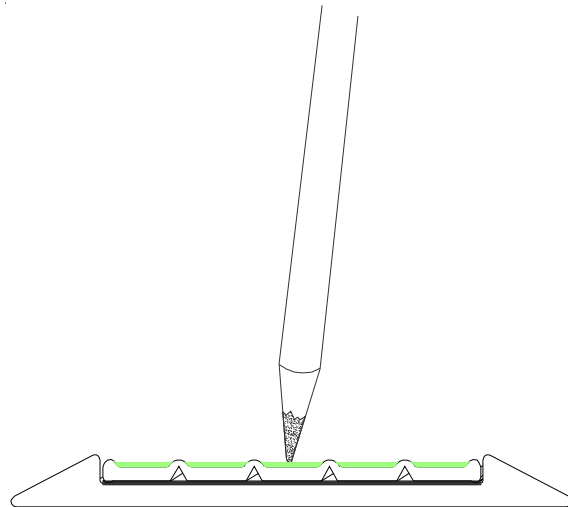

Figure 2
STEP 1. If the anchor holes have not been predrilled into the stair demarcation strips at the factory, select a stair demarcation strip, and mark the locations for the anchors on the stair demarcation strip (see Figure 2). Standard anchor spacing is 24" o.c. with an anchor at 3" from each end of the stair demarcation strip. Drill the anchor holes into the stair demarcation strip at the marked locations. Repeat this procedure for each stair demarcation strip.